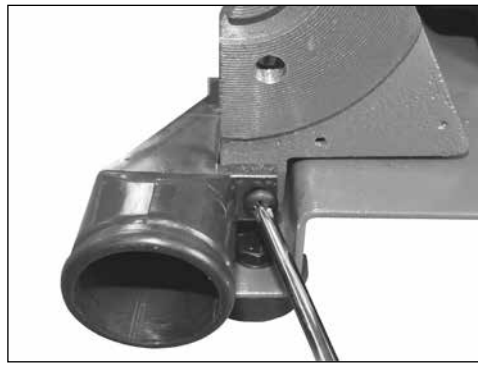

Figure 8
18. Attach the Dust Port (#19) to the sanding disc base using the M6 Phillips head Screw and Washer (#18, 17) as shown in figure 8 above.